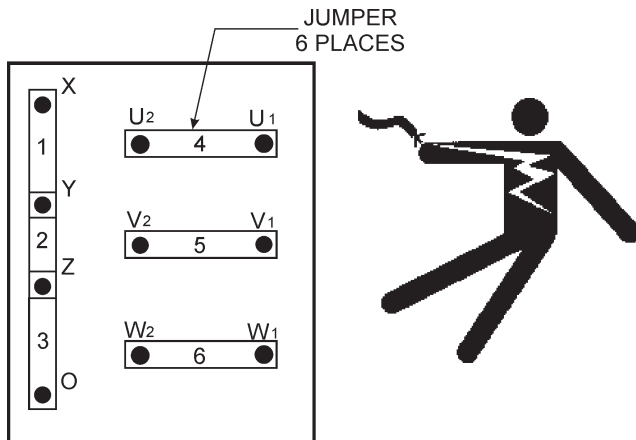

Figure 15. Voltage Change-Over Board
A wide range of voltages are available to supply voltage for many different applications. Voltages are selected by applying jumpers (6) to the **voltage change-over board** (Figure 15). To obtain some of the voltages as listed in Table 7 (see below) will require a fine adjustment using the **voltage regulator** (VR) **control knob** located on the control panel.
The **voltage change-over board** (Figure 15) is located on the control box, behind the generator control panel. This board has been provided for ease of voltage selection.